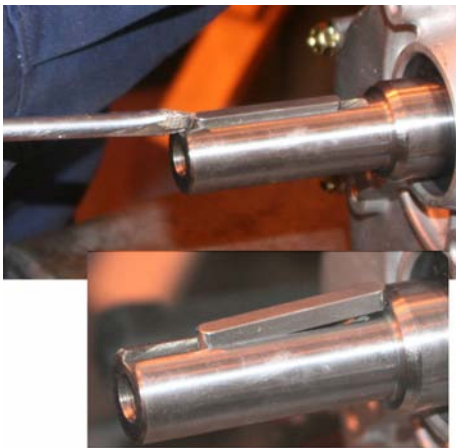

Fig 5-8 Removing shaft key
1. Knock out the shaft key (Fig 5-8).